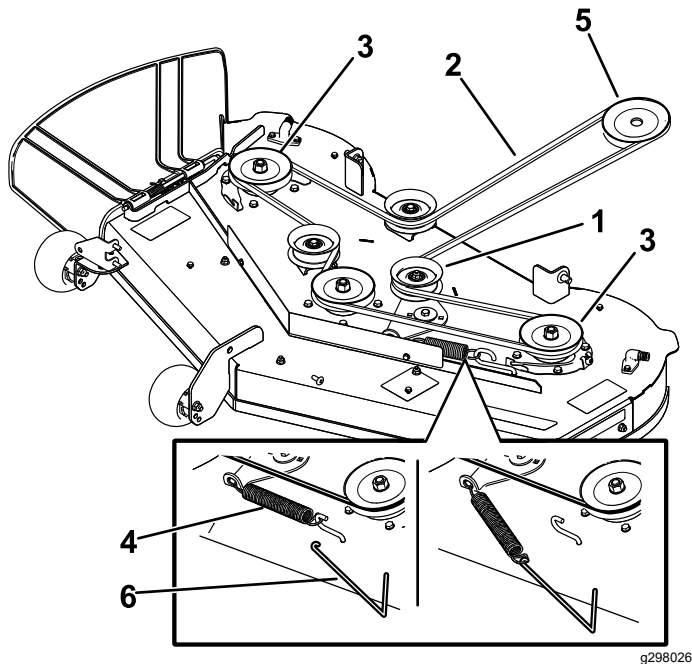

Figure 51
5. Using a spring-removal tool (Toro Part No. 92-5771), remove the idler spring from the deck hook to remove tension on the idler pulley, and roll the belt off the pulleys (Figure 51).
6. Route the new belt around the engine pulley and mower pulleys (Figure 51).
7. Using a spring-removal tool (Toro Part No. 92-5771), install the idler spring over the deck hook and place tension on the idler pulley and the mower belt (Figure 51).